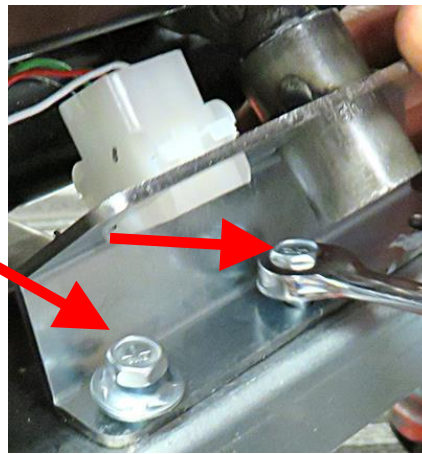

Figure 39
43. Attach the dispose outlet assembly using ¼"-20 self tapping bolts (see Figure 39).